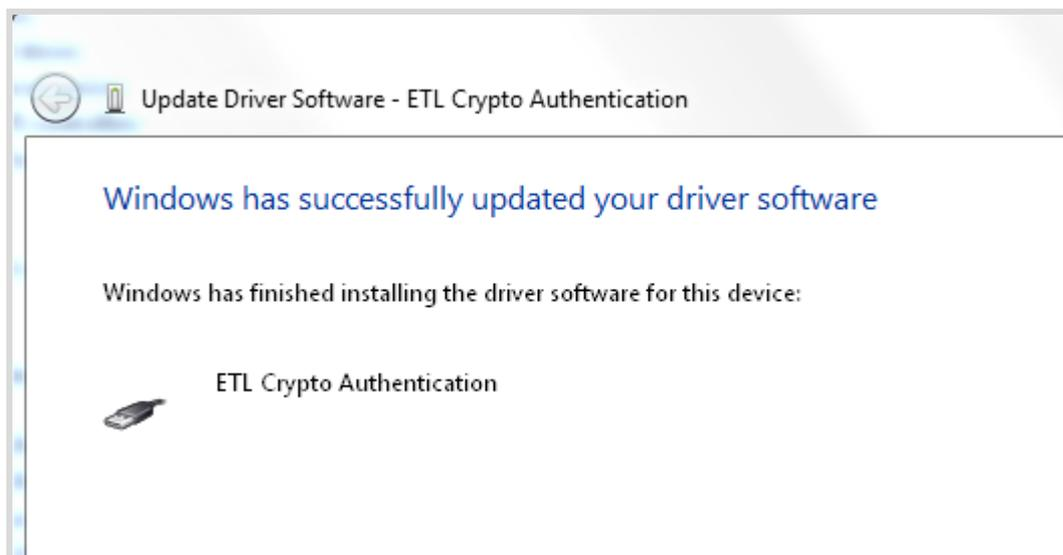

Figure 9. The successfully "Update Driver Software " screen
- Shortly the "Update Driver Software" screen will appear(Figure 9)